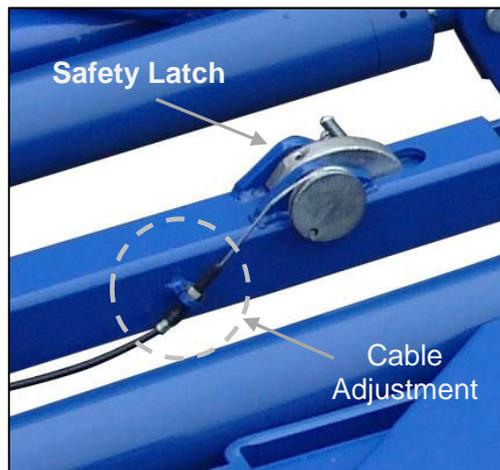

Fig. 7
**If the latch engages the lock ladder while rising or does not disengage the lock ladder after handle is held tight, adjustment is required for the position of the safety latch via the threaded cable adjustment nut (Fig. 7).**